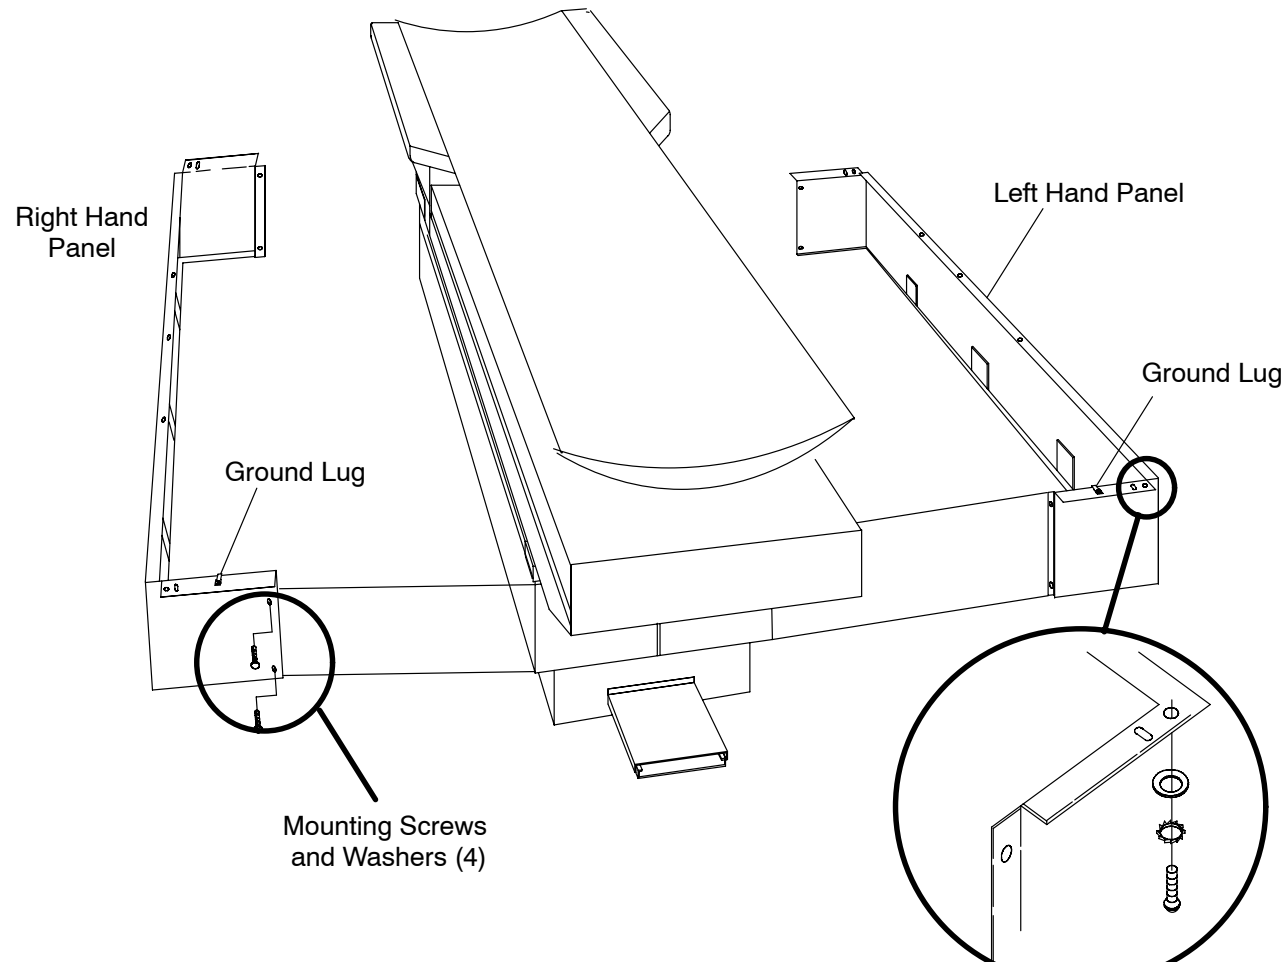

FIGURE 9 PATIENT SUPPORT TELESOPING BASE COVERS
3. Remove the four screws and Washers that attach the Telescoping Base Cover Panels to the Subframe. Refer to Figure 9.
6. Remove the two screws from both Outer Cover ends (front & rear, 4 total). Refer Figure 9.